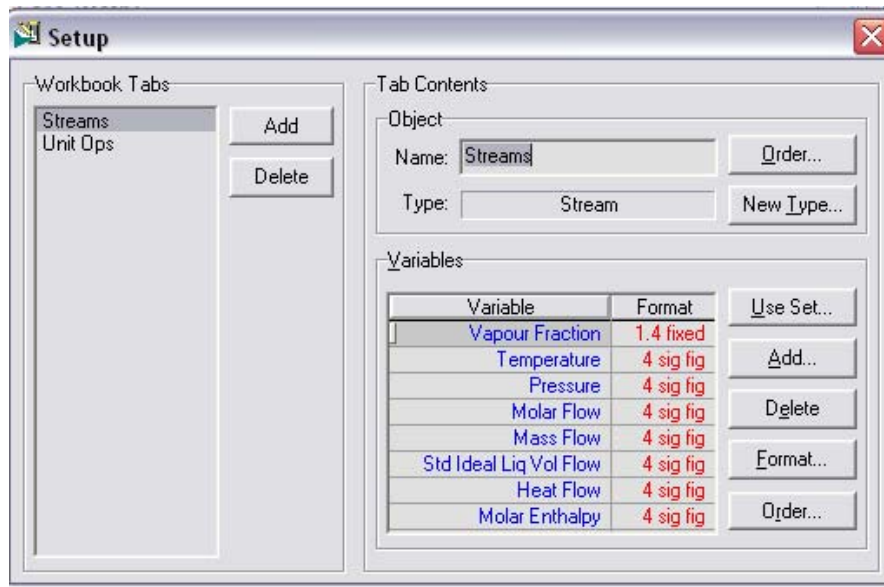

Figure 2-4
- To add the Molar Volume or other variables, go to the **Workbook** menu and click **Setup**. The setup window for Workbook can be viewed as shown in Figure 2-4.